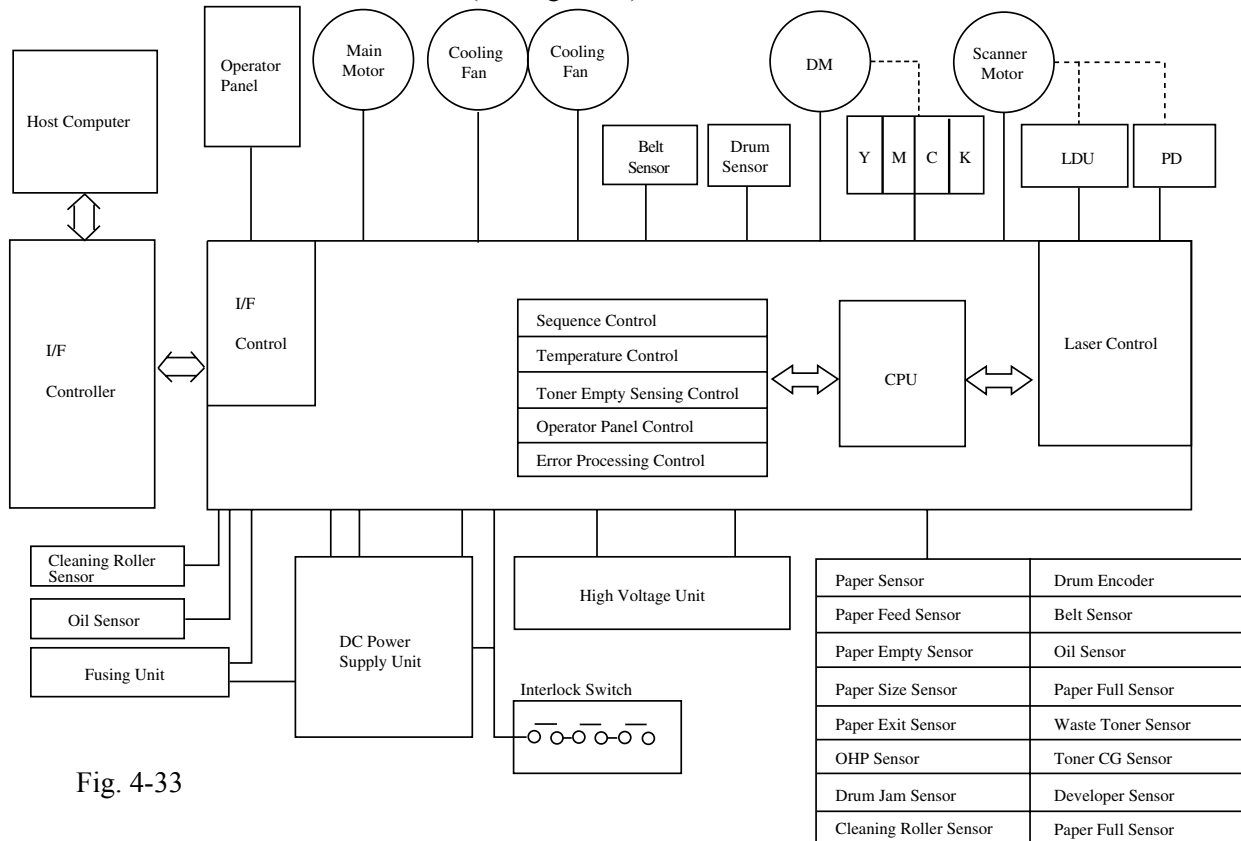

Fig. 4-33
The Micro CPU mounted on the MCTL P.W.B. controls the print processes (see Fig. 4-33).
4.6.2.1.1 Control Block Diagram (see Fig. 4-33)